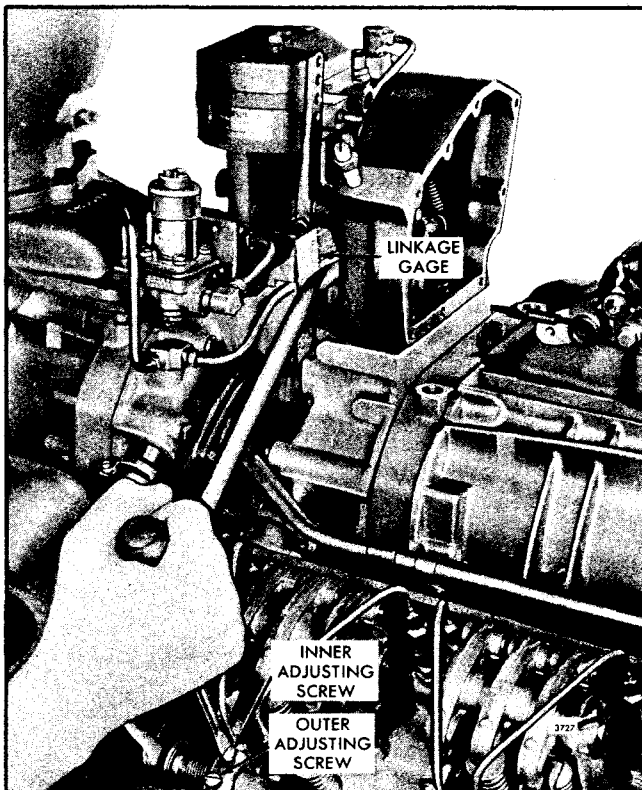

Fig. 5 - Positioning No. 4R Injector Rack Control Lever
5. Adjust the 4R injector rack by turning the inner adjusting screw down until a slight movement of the control tube is observed or a step-up in effort is noted (Fig. 5). This will place the rack in the full-fuel position. Turn the outer adjusting screw down until it bottoms slightly on the control tube. Then alternately tighten both the inner and outer adjusting screws.